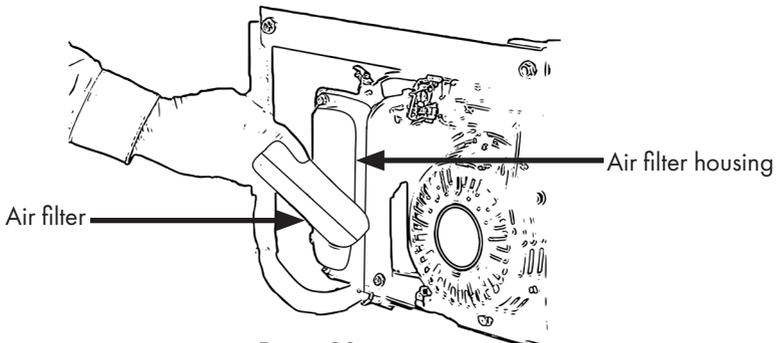

Figure 20
- Remove the air filter from the air filter housing, Fig. 20.